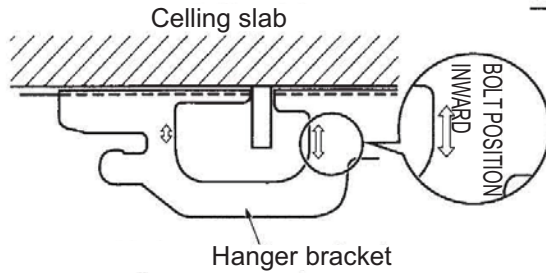

Fig.6
* Make sure that the extended suspension bolt from the ceiling stays inside the appointed position. Readjust the hanger bracket when it is out of the appointed position. (Refer to Fig.6)